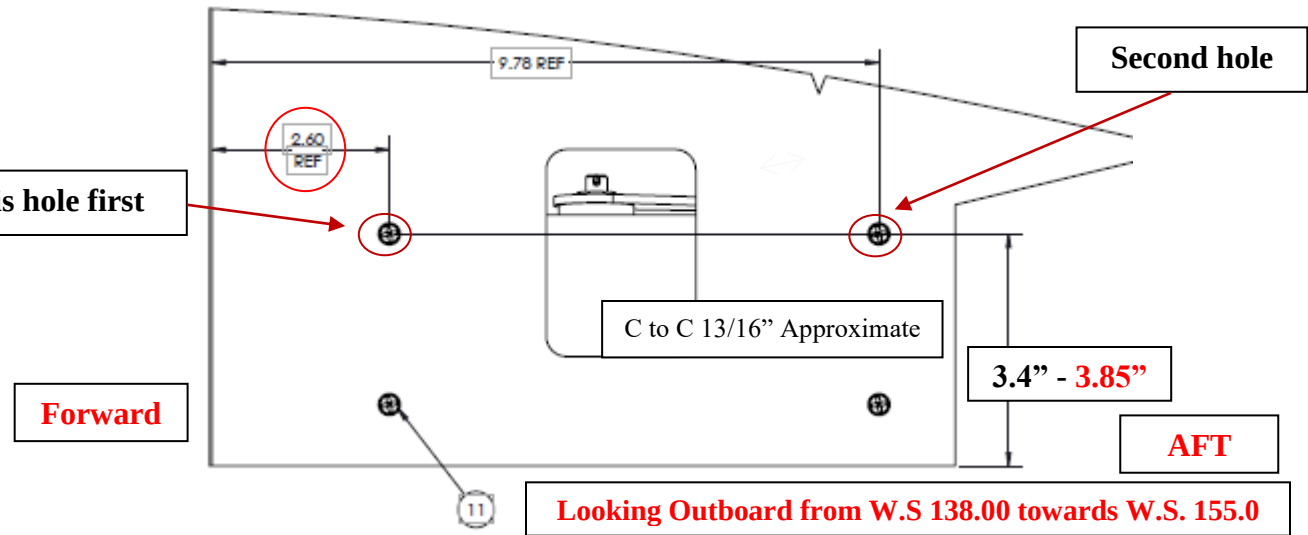

FIGURE 3-4 ROLL SERVO INSTALLATION (LOOKING OUTBOARD)
3. Insert the servo bracket, PN 1177501, through the access hole at W.S. 163.0 and align it with the rib at W.S 155.0 as depicted in Figure 3-4.
4. Mark or center punch the upper forward hole through the MS21075L08N nutplate at WS 155.0 using the locating dimensions shown in Figure 3-4.
7. Mark or center punch the upper rear hole through the MS21075L08N nutplate at WS 155.0 using the locating dimensions shown in Figure 3-4.